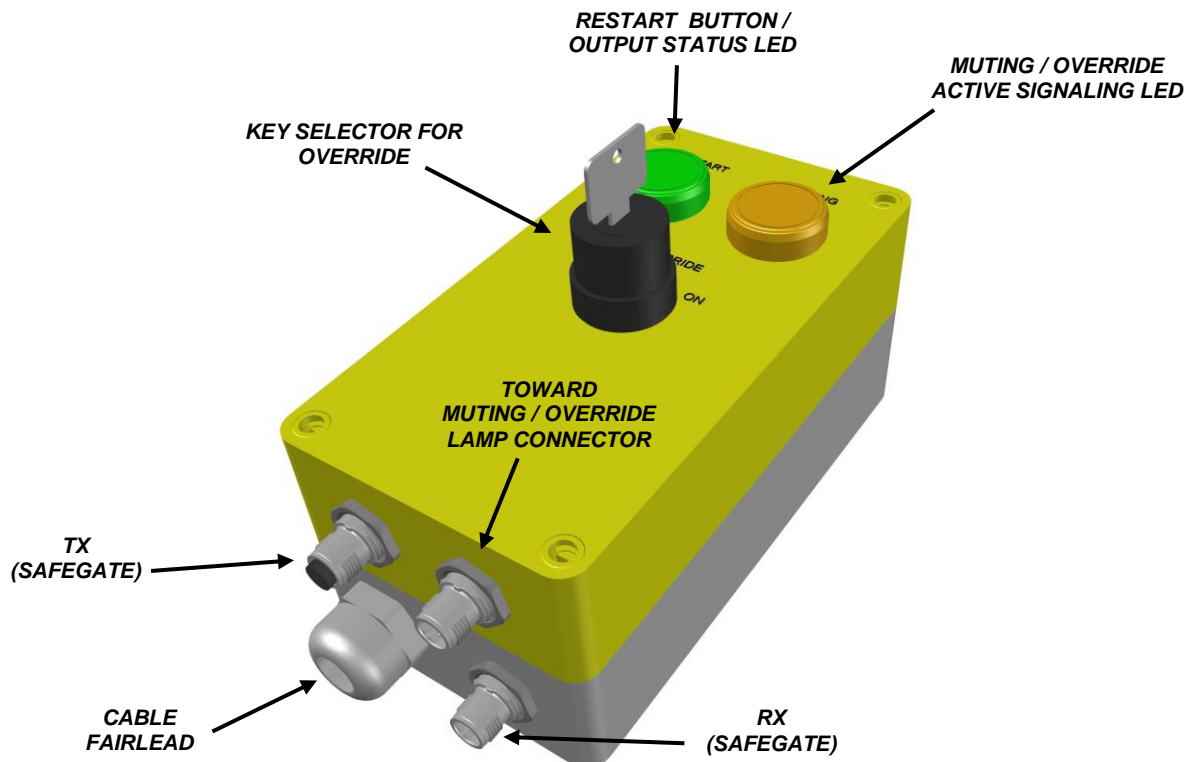

Figure 1 - M SGO BOX – Connections and signals
- The light curtain must be connected to the respective connectors M12 (Fig.1) using the dedicated cables.